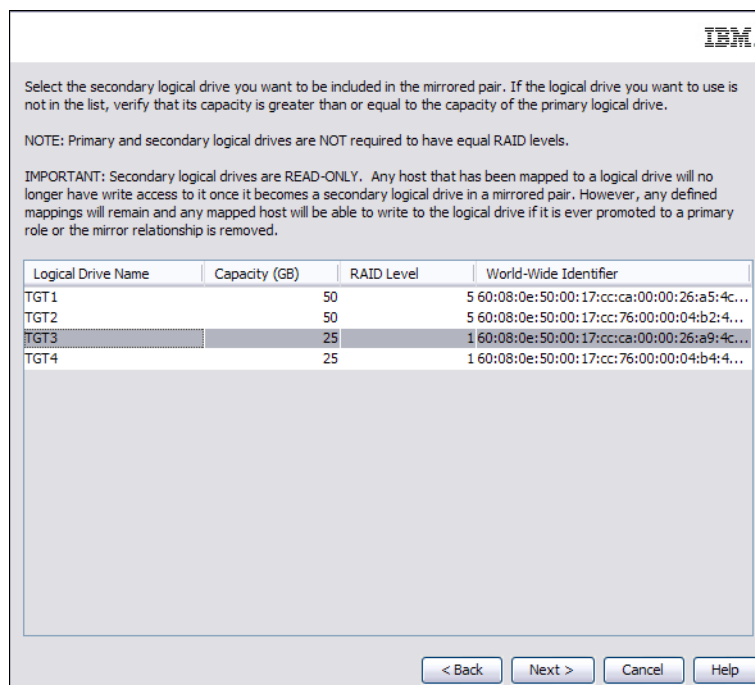

Figure 5-18 Select Secondary Logical Drive
4. In the next window that opens, shown in Figure 5-18, you may select a secondary logical drive for the remote mirror pair.